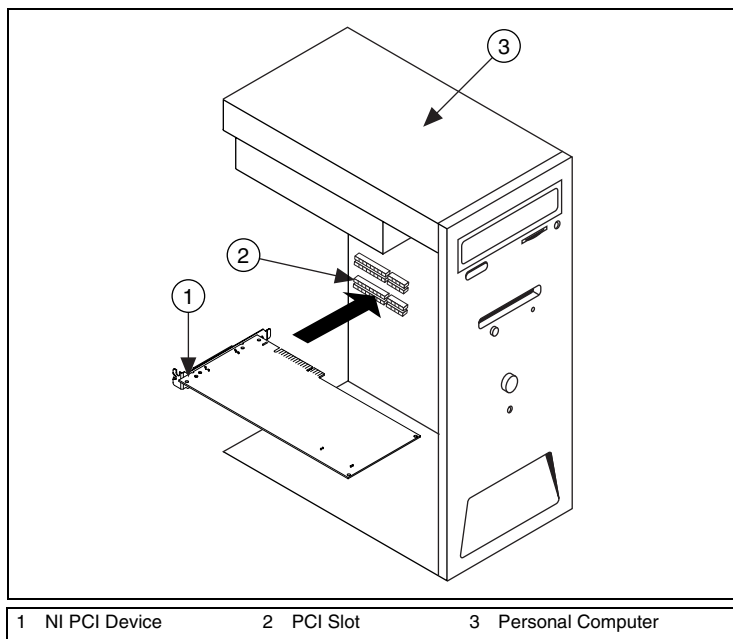

Figure 2. PCI Installation
4. Insert the device into an open PCI slot, as shown in Figure 2.